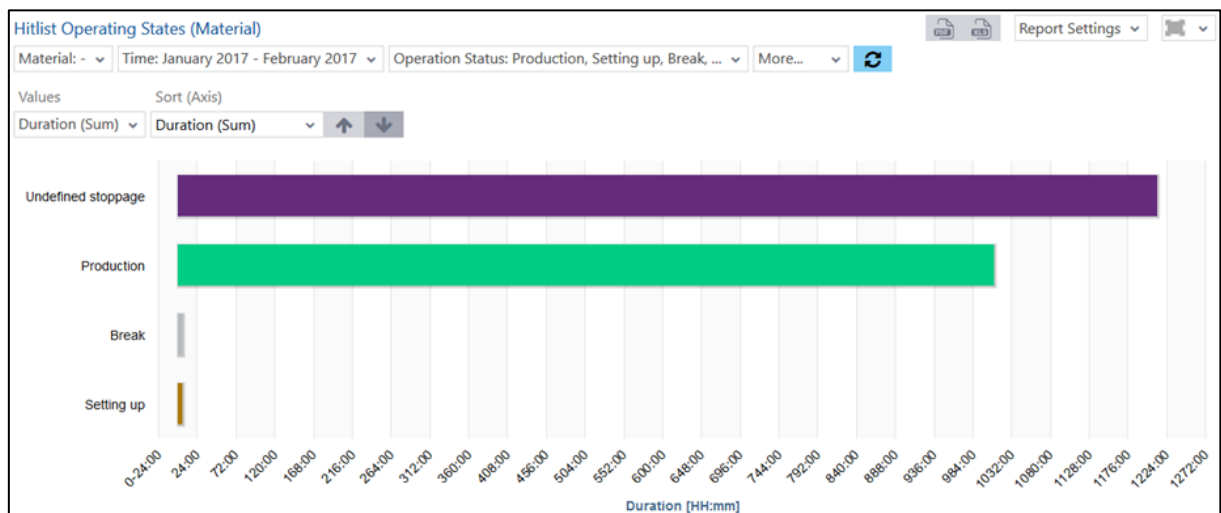

Fig. 75: Hit list of operating states (material) as bar chart
- Hit list operating states (material) as bar chart (fig. 75):